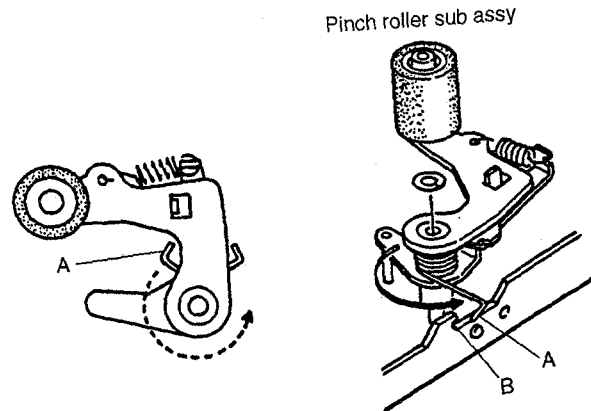

Fig. 9
9. Installing Pinch roller sub assy (See Fig. 9.)